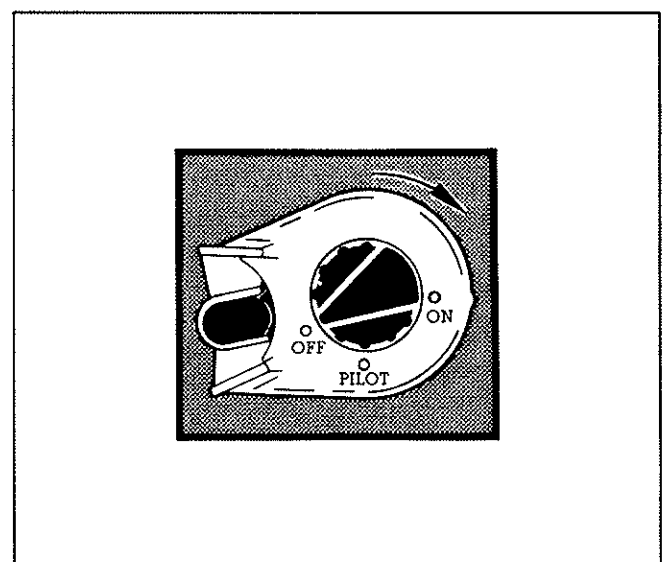

Figure 13. Gas Valve
3. Turn the gas valve knob to the OFF position; wait five minutes to let the natural air flow clear the accumulation of any unburned gases from the heater which could flashback if ignited (see Fig. 13).